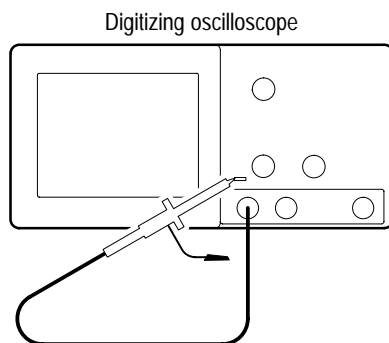

Figure 4–3: Hookup for functional test
7. Check that the word **Pass** appears in the main menu under the Voltage Reference, Timing, and Ext Trig menu labels. (See Figure 4–2.) If any of the labels read Fail, the oscilloscope has failed the self test. Contact your Tektronix representative for assistance.
1. Install the probe on **CH 1**. Connect the probe tip to **PROBE COMP** on the front panel; leave the probe ground unconnected. (See Figure 4–3.)